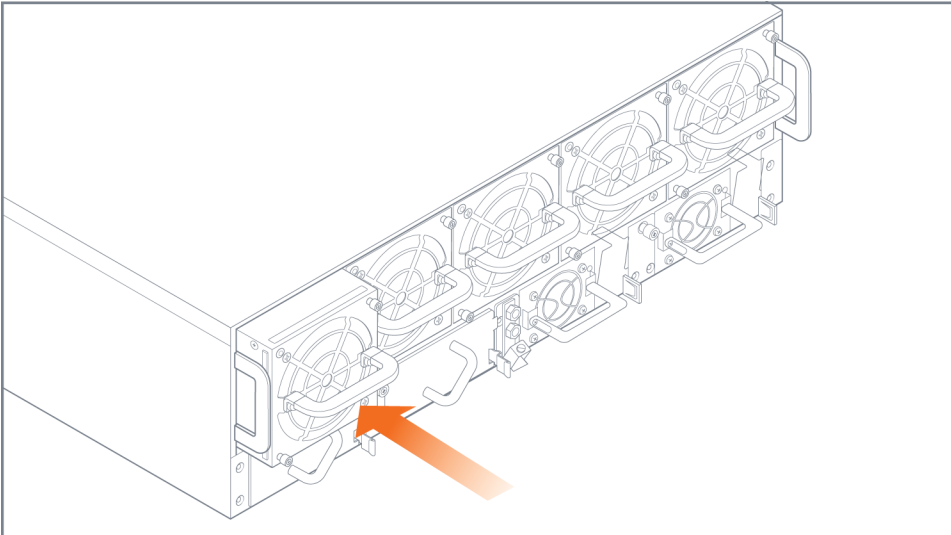

Figure 9: Fan Module Insertion
1. Place the working fan module into the empty fan module slot and slide it in until it is flush with the chassis rear and will not slide in any further. Refer to Figure 9: Fan Module Insertion.